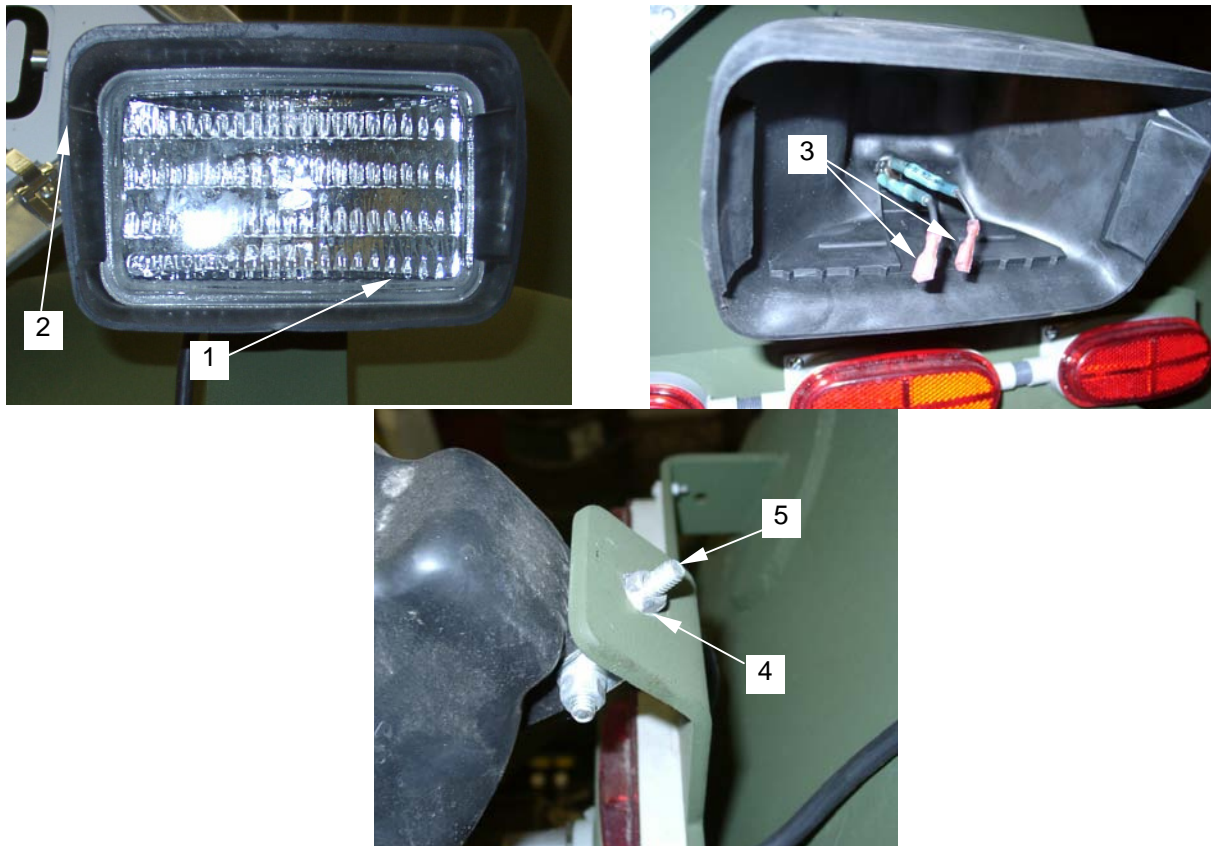

Figure 9. Work Light Removal
1. Remove light bulb (**figure 9, item 1**) from hood (**figure 9, item 2**).
2. Disconnect wiring (**figure 9, item 3**) from bulb (**figure 9, item 1**).
4. Remove wiring (**figure 9, item 3**) from hood (**figure 9, item 2**).
5. Loosen and remove mounting nut (**figure 9, item 4**) and bolt (**figure 9, item 5**).